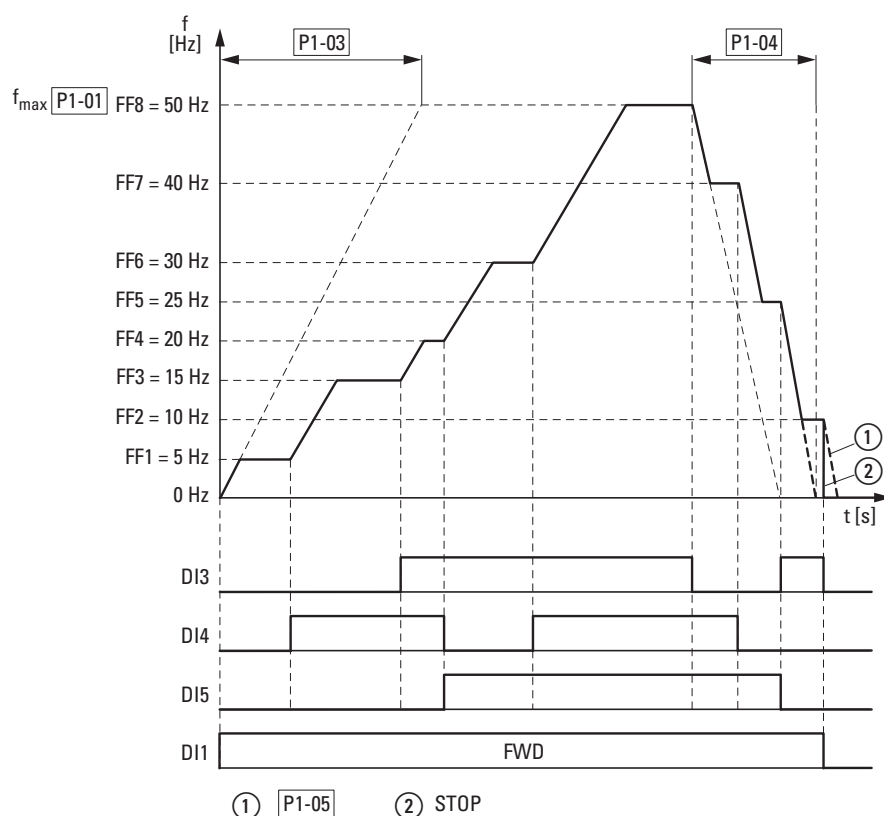

Figure 67: Example: Activation of the fixed frequencies with acceleration and deceleration ramps
The change between the individual fixed frequencies is done with the acceleration times and deceleration times set at P1-03 and P1-04 (→ Figure 67). When the FWD or REV enables are revoked, the output frequency is inhibited directly (2) (coasting to halt). When P1-05 = 0, the drive performs a controlled deceleration (1).